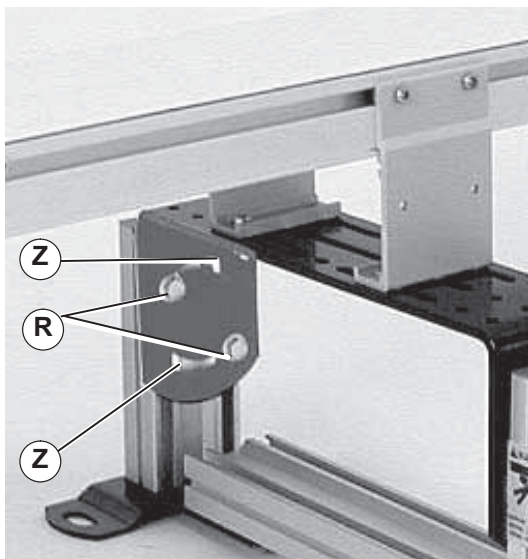

Figure 16
<p>To rotate stand top plate, screws (Figure 16, item R) may need to be re-located to t-slots (Z).</p>
- Loosen flange head hex screws (Figure 16, item R) on both sides of stand.
<p>Failure to secure screws (Figure 16, item R) may cause conveyor sections to drop down, causing severe injury.</p> <p>TIGHTEN ALL SCREWS (R) AFTER ADJUSTMENT.</p>
- Secure screws (Figure 16, item R) to 150 in-lb (17 N-m).